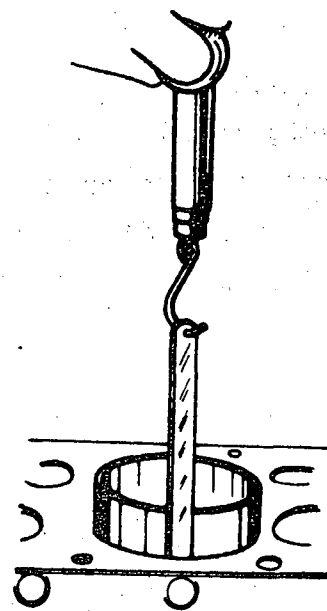

Fig. 4
- The tension required to displace a calibrated sheet (feeler) between the piston and the cylinder wall (fig. 4).